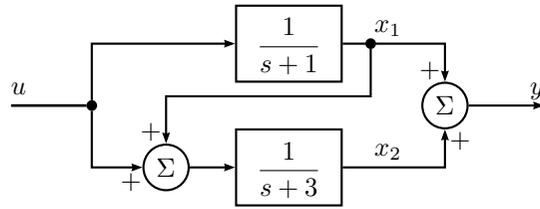

Figure 8.14a
- 8.14 A system is given by the block diagram in Figure 8.14a. Derive a state space model of the system, with the state space variables given in the figure.